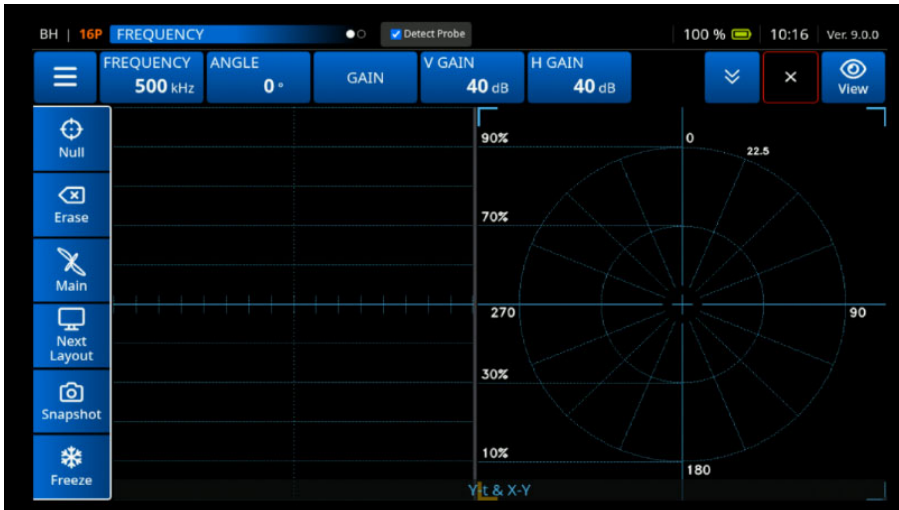

Figure 5-5 Bolt Hole Figure 6 Application Preset
2. Select the **Figure 6** application preset  and press **Confirm** . The Figure 6 configuration launches ready to use (See Figure 5-5 on page 195).